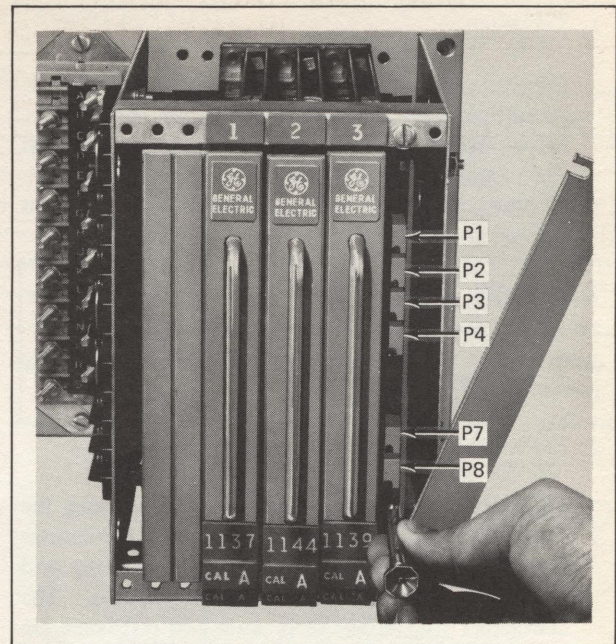

FIG. III-51. ADJUSTMENT OF TYPICAL MULTI-EVENT FL182 PANEL.
NOTE: These potentiometers, Fig. III-51, are mounted on the panel frame and are preset by the factory. Any card can be replaced without making adjustments to the panel. Only reason to readjust potentiometers would be interchange of panel to locomotive with different gear ratio or transition speed settings.
NOTE: *Since adjustment potentiometers are mounted on the panel frame, Fig. III-51, and factory set, cards can be replaced without making adjustments to the card or to the panel. For this reason, the first attempt in trouble-shooting the panel should be to replace cards. If spare cards are not available, continue to Step 3.*
b. On most two, four, six and eight-event panels (i.e. — 17FL182AA-DD), Fig. III-51: